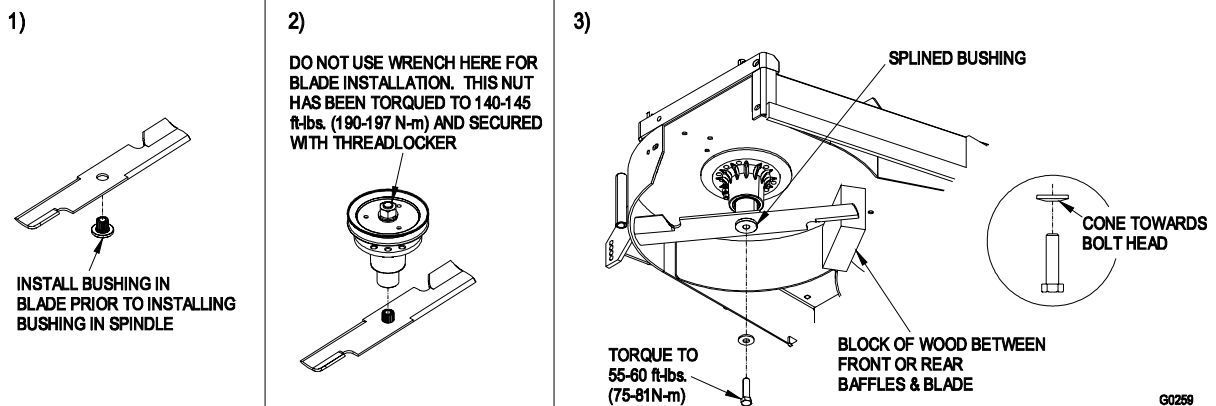

FIGURE 7
- Re-install the blades (if they were removed) in the following order (See Figure 7):